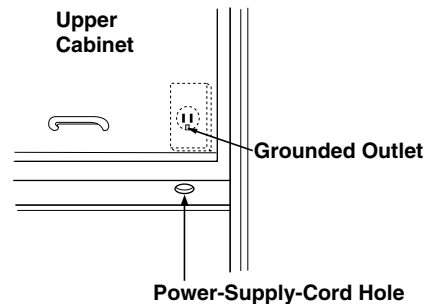

Figure 3 Detail
1. Locate the grounded electric outlet for this oven in the cabinet above the oven, as shown in Figure 3 Detail.
2. You will cut the power-supply-cord hole (shown in Figure 3 Detail) later when you prepare the wall and upper cabinet in Step 4.